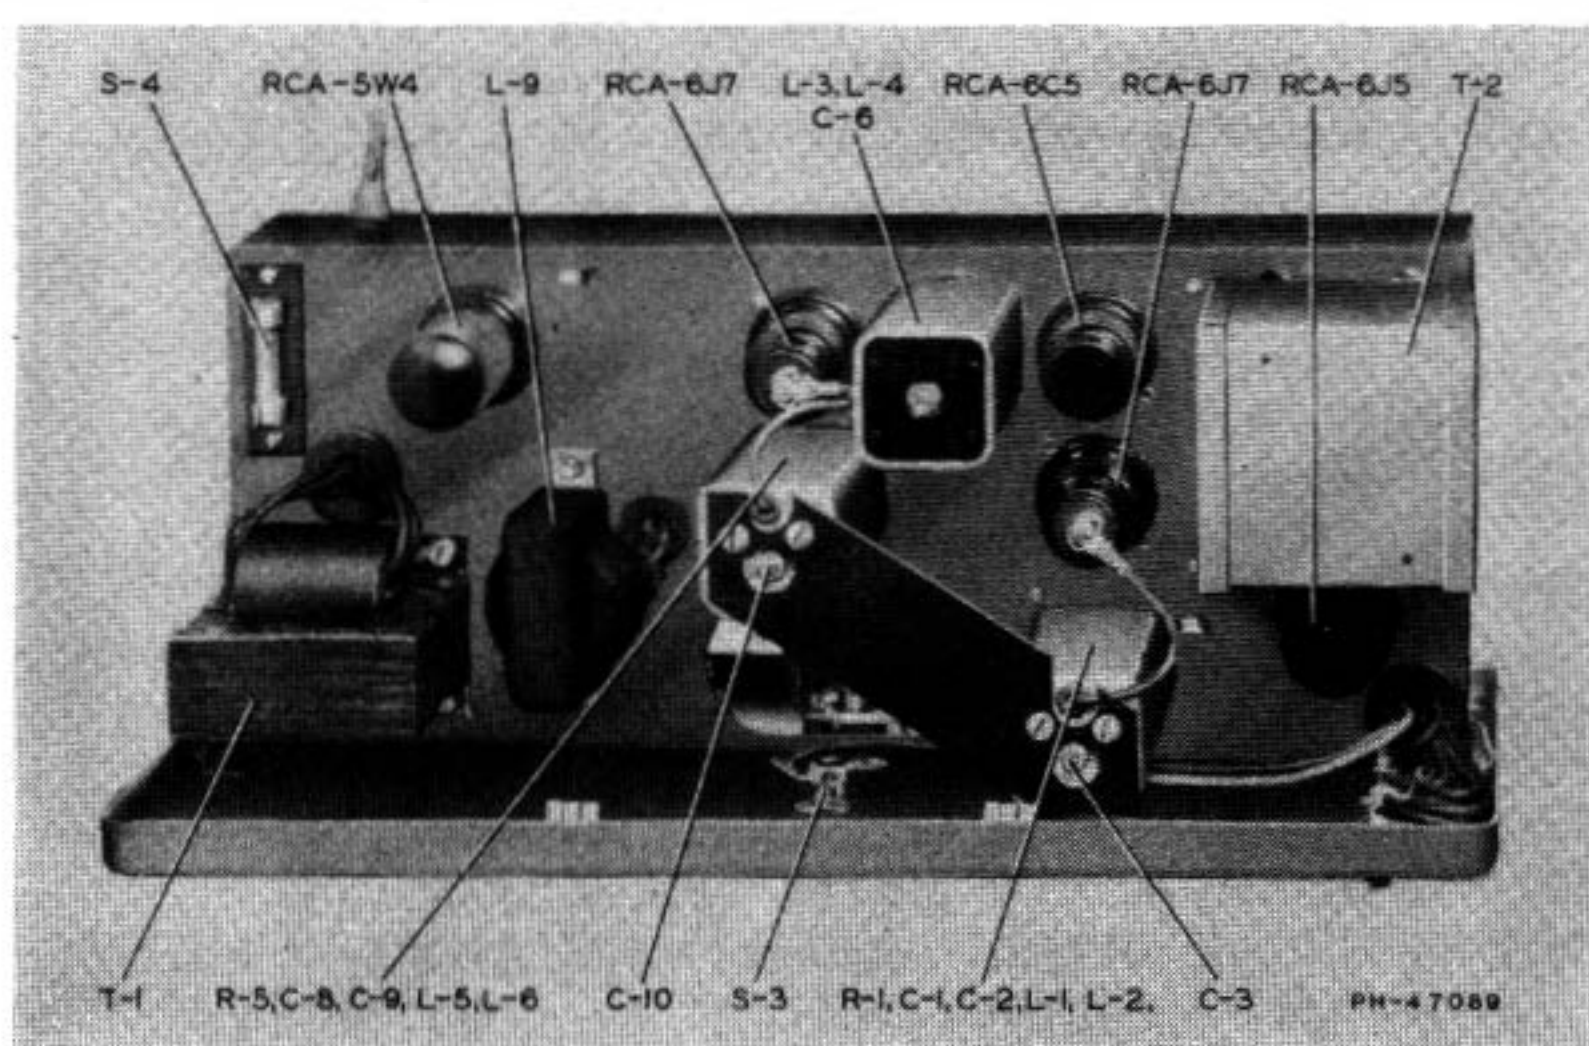

Figure 11—Top View of Chassis
These operations will feed two signals into the receiver: (1) The broadcast station carrier or the calibrator frequency, and (2) the fixed oscillator frequency from the beat-frequency oscillator. The second harmonic of the fixed oscillator will be used for indication, since its fundamental is 350 kc. Adjust trimmer C-3 of the fixed oscillator (see Figure 11 for location) until zero beat is heard in the receiver loudspeaker, indicating that the fixed oscillator is correctly tuned to 350 kc. Disconnect the lead to the receiver antenna connection.
mer C-10 of the variable oscillator (see Figure 11 for location) until zero beat occurs between the two oscillators. This point will be indicated when the neon lamp goes out entirely. A pair of headphones may be connected across the 5,000-ohm output terminals to obtain the same indication of zero beat. The oscillators are now properly aligned, but the “CAL. ADJ.” setting is not correct for operation and must be adjusted as described under “Calibration.”
Connect a 0–30 volt, a-c meter (equivalent load 5,000 ohms) across the two output terminals marked “5000.” If a 1,000-ohm-per-volt meter is used, connect a carbon resistor of approximately 6,000 ohms in parallel with the meter to obtain the equivalent 5,000-ohm load. Calibrate the instrument properly, as described under “Calibration.” Place the “INDICATOR” switch at “USE” and advance the “OUTPUT” control to maximum. Set the main tuning control to its 1,000-cycle position. Adjust the magnetite core (L-3) on the i-f transformer (see Figure 11 for location) for maximum output.